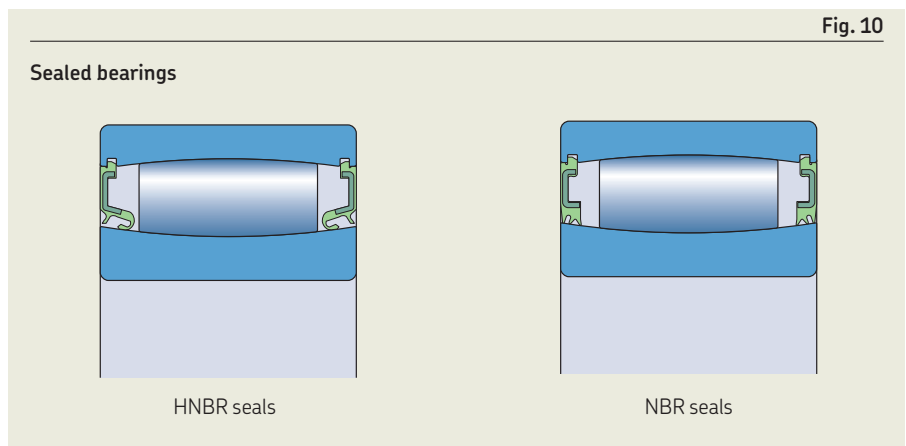

Fig. 10
- are available with two different seal materials / designs (fig. 10):